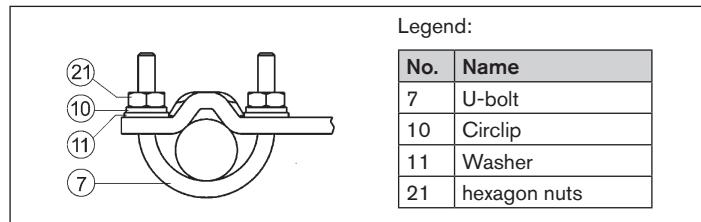

Fig. 30: Fit mounting bracket to columnar yoke
- Attach mounting bracket to the columnar yoke with the U-bolt (7), circlips (10), washers (11) and hexagon nuts (21) (see "Fig. 30").